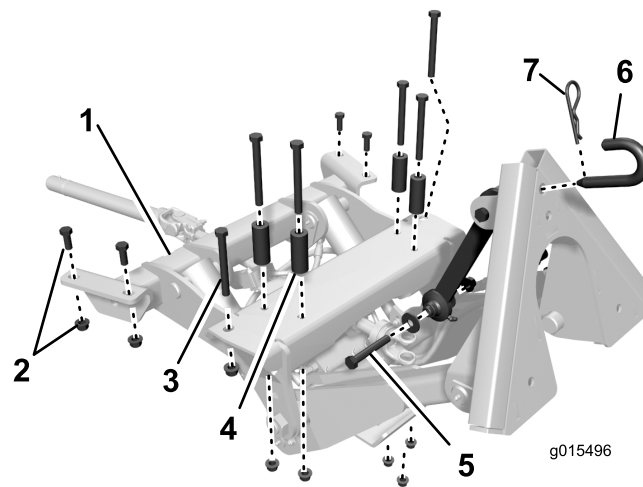
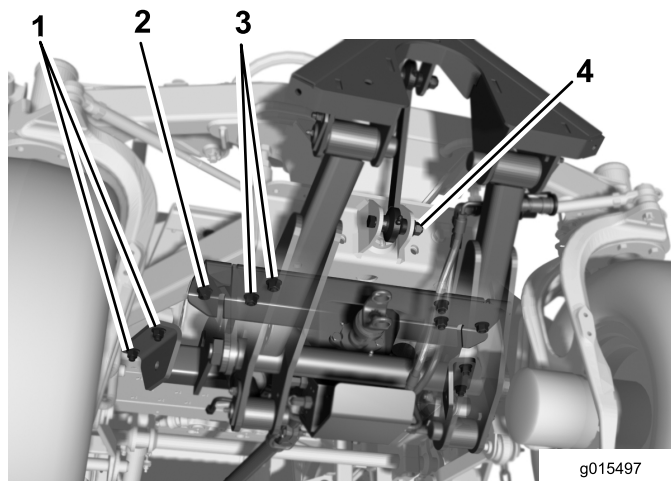
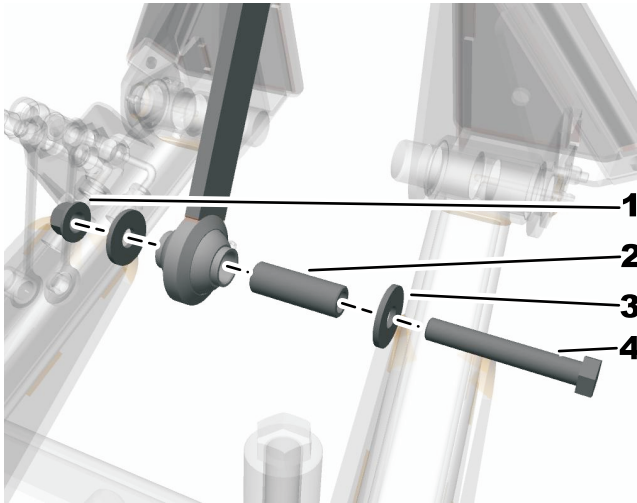

Figure 5
Figure 6
Figure 7
1. Figure 5 shows the top view of the location, positioning and size of the fasteners used to secure the front attachment frame to the underside of the traction unit frame.
3. Position the front attachment frame under the front of the machine (Figure 6).
4. Raise the front attachment frame while aligning the mounting holes with the mounting holes in the frame channels and the front frame cross plate (Figure 6).
5. On the front of the attachment, secure the outer hole, on each side, to the frame channels with a 1/2 x 4-1/2 inch screw and a 1/2 inch flange nut (Figure 6).
6. On the rear of the attachment, loosely install each side to the frame channels with 2 1/2 x 1-1/4 inch screws and 1/2 inch flange nuts (Figure 6).
7. Using the remaining 4 mounting holes, secure the attachment to the frame cross plate with 1/2 x 4-1/2 inch screws, spacers and 1/2 inch flange nuts (Figure 6). Position the spacers between the screw head and the cross plate.
9. Secure the top link assembly to the axle support with the 1/2 x 3-1/4 inch screw, 2 support washers and 1/2 inch lock nut (Figure 5 and Figure 6). The washers are to be positioned on the outside of the ears on the axle support. Install the spacer and torque to 91-113 Nm (67 to 83 ft-lb) Figure 7).